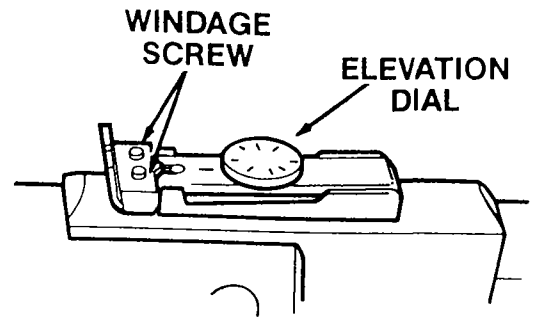

FIG. 8
**Elevation** is set by means of the knurled rear sight elevation dial situated on the rear sight plate. Turn the dial counterclockwise to make the pellet hit higher on the target and turn the dial clockwise to make the pellet hit lower on the target. (Fig. 8.)
**Windage** is set by loosening the rear sight windage screws and moving the rear sight notch to the right or to the left. (Fig. 8.)